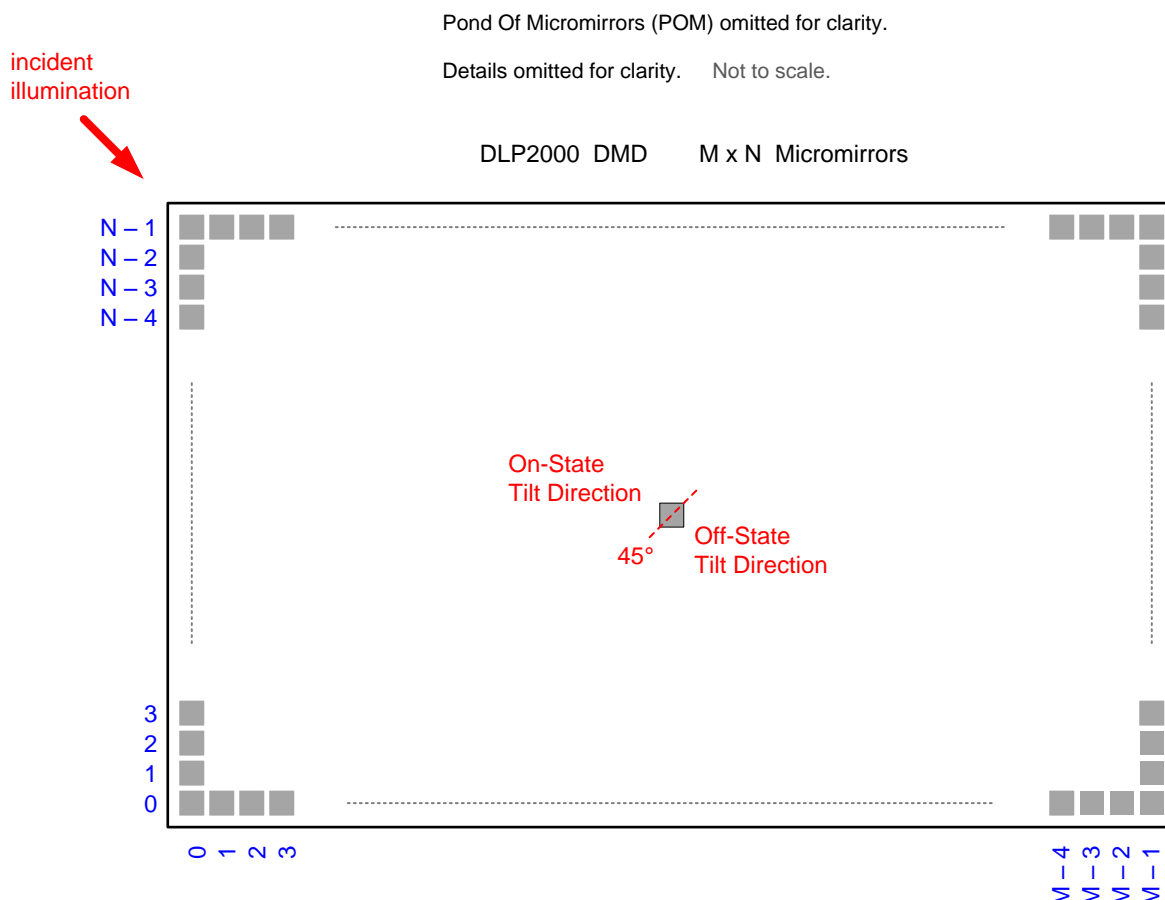

Figure 9. Landed Pixel Orientation and Tilt
- (1) Limits on variability of micromirror tilt half angle are critical in the design of the accompanying optical system. Variations in tilt angle within a device may result in apparent non-uniformities, such as line pairing and image mottling, across the projected image. Variations in the average tilt angle between devices may result in colorimetry and system contrast variations. The specified limits represent the tolerances of the tilt angles within a device.
- (2) See Figure 9.